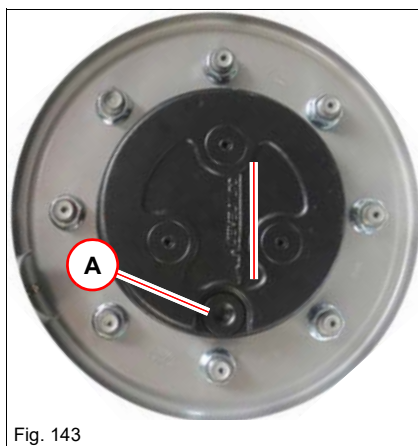

Fig. 143
10. Bring plug **A** into position as shown *Fig. 143* (plug must be at the bottom).